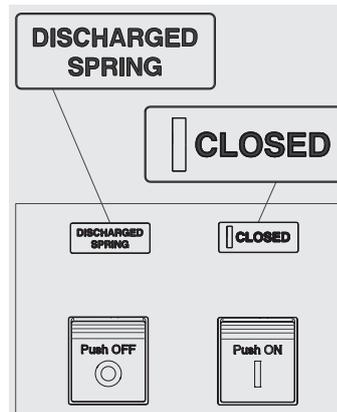

Figure 47
3. Circuit-breaker closed with springs discharged (see Figure 47).